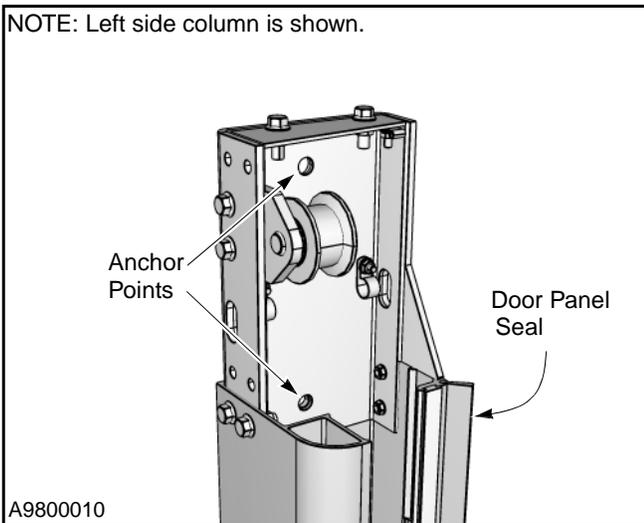
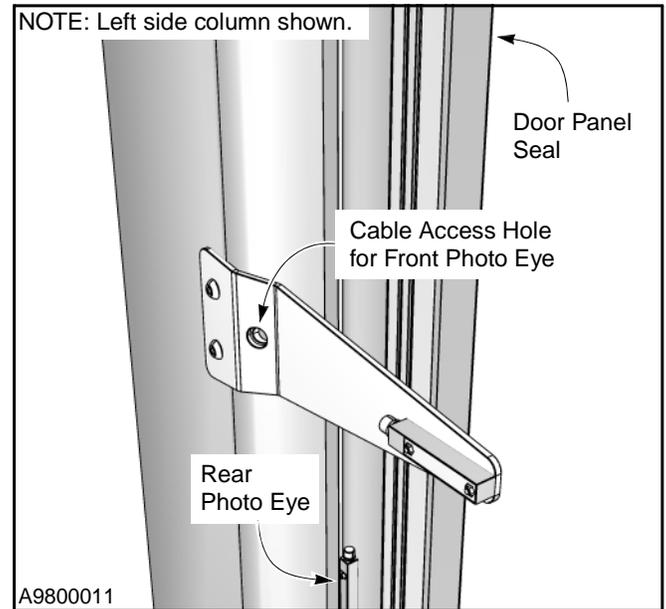

Figure 11
Figure 12
The number of anchor points in a side column have been designated by the engineered height of the door. There is a minimum of three anchor points on a side column. (See Figure 11 and Figure 12)
2. Stand the left side column on the floor and tight against the wall. To determine on which side of the door to place the side column, be sure that the photo eye cable access hole or the rounded corner of the side column is facing away from the door opening. (See Figure 12)